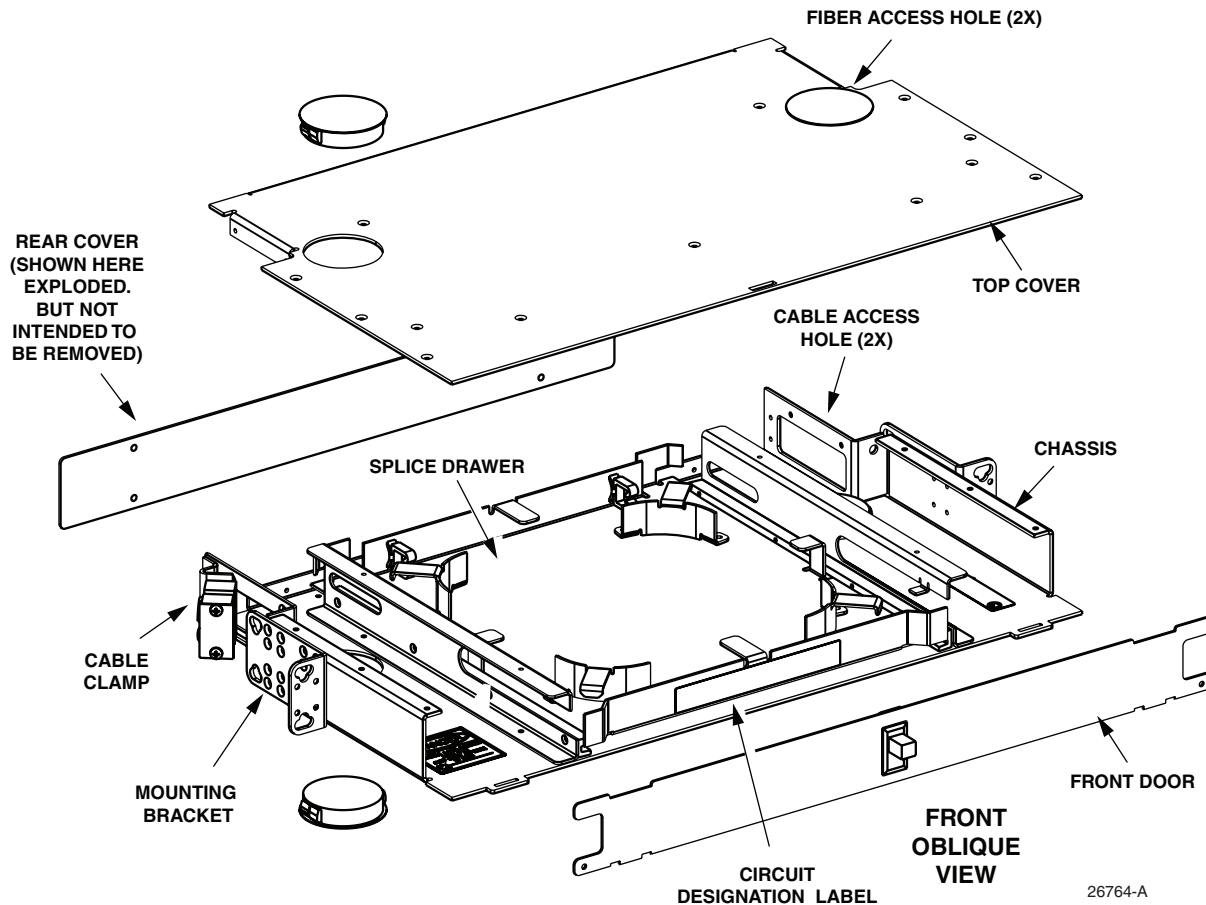
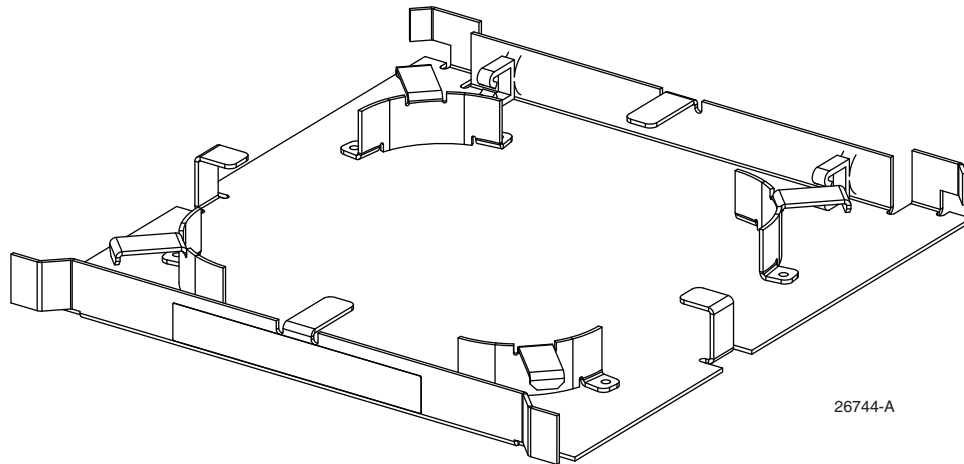

Figure 1. 1RU LSX Splice Panel Components
Figure 2. Splice Drawer Used in the 1RU LSX Panels
The 1RU LSX Splice Panel mounts in a 19- or 23-inch rack. Figure 1 shows the major components of the splice panel. The major components identified by call-outs in the figure are described in the following bulleted paragraphs.
- **Splice drawer** -- shown in both Figure 1 and in more detail in Figure 2 on Page 4.